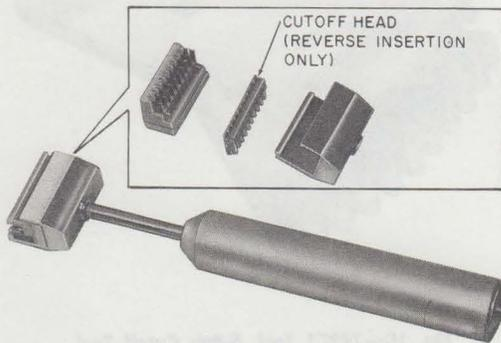

Fig. 12—788J1 Tool, Impact Insertion
2.15 ♦The 788J1 impact tool (Fig. 12) is used to perform the same functions as the 788B1 and 788C1 tools, but it has a spring-loaded handle designed to supply the proper impact force to seat and cut off conductors or to insert the connecting blocks. The blade section of the head is easily removed for replacement or positioning for wire seating/cutoff or seating only. The 88-type connecting blocks should be placed on the index strips, by hand, before insertion, using the tool.